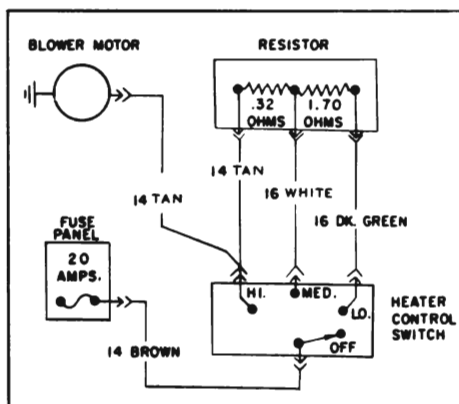

Figure 11-18—Heater
d. Blower Inoperative <ol style="list-style-type: none"> <li>1. Blower fuse.</li> <li>2. Defective motor.</li> <li>3. Open circuit.</li> <li>4. Defective switch.</li> </ol>	<ol style="list-style-type: none"> <li>1. Replace 20-amp blower fuse on fuse block.</li> <li>2. Replace.</li> <li>3. Check wiring connections on blower switch and resistor. Locate open circuit and correct. See Figure 11-18.</li> <li>4. Replace.</li> </ol>